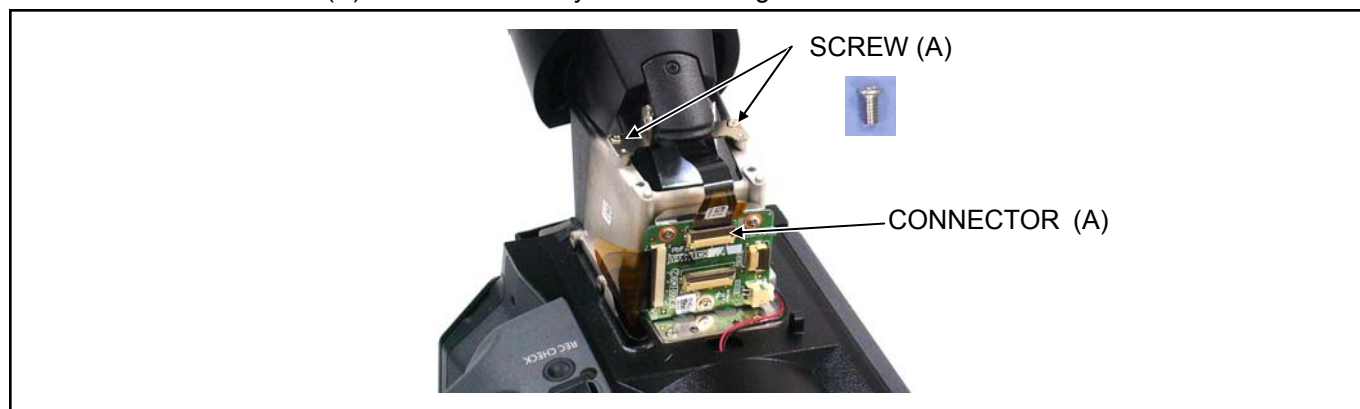

Figure 8-1
1. Remove the VF Case (R) Ass'y.
3. Disconnect a connector (A) as shown in figure 8-1.
4. Unscrew the 2 screws (A) and the EVF Ass'y as shown in figure 8-1.